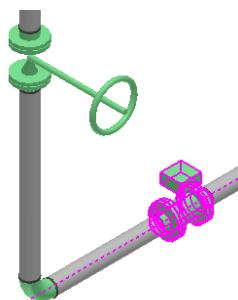

Figure 12. 67: Mating Part
2. In the graphic view, select **FE-523** from pipeline **P-204**, as shown in Figure 12. 67.